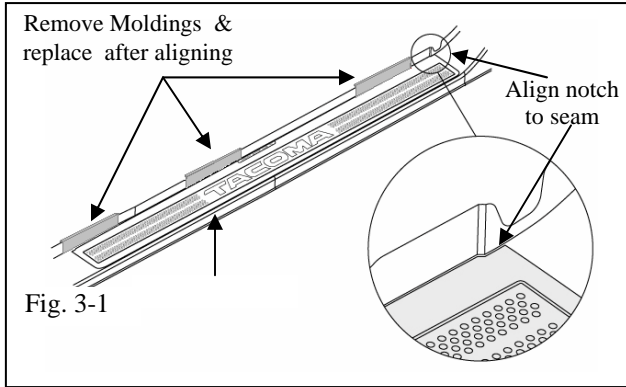

Fig. 3-1
(b) Remove Moldings (Fig. 3-1).
**STOP** (d) Align the front notch to the seam notch in the sheet metal flange and the back edge along the tangent of sheet metal flange. Do not smooth part with hands. Do not let part wrap past outside edge of radius. (Fig. 3-1).
(e) Replace Moldings (Fig. 3-1).